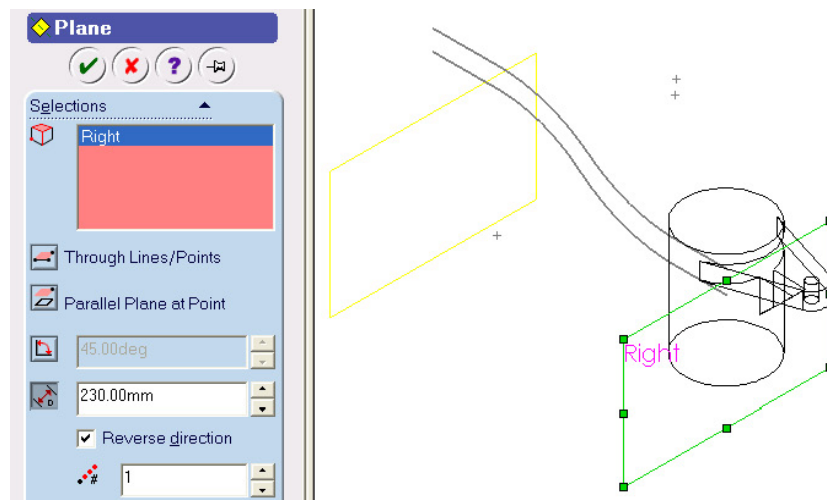

Figure 9 Reference plane for sweep profile
12. Check the **Reverse direction** check box as shown in Figure 9.